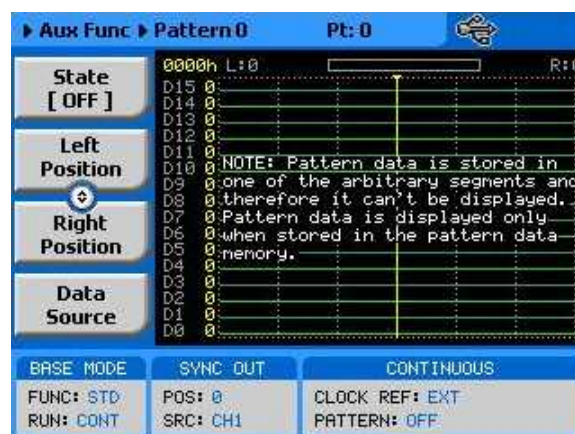

Figure 3-59, Digital Pattern Display while Using the Arbitrary Memory
- 2) Arbitrary Memory provides access to the entire arbitrary memory however, the data cannot be displayed on the front panel. If you select the arbitrary memory option, any waveform that is downloaded to the arbitrary memory can be generated simultaneously, from the front panel as an arbitrary memory and from the rear panel as digital pattern. When you select the arbitrary memory option, the message as shown in figure 3-59 will display.